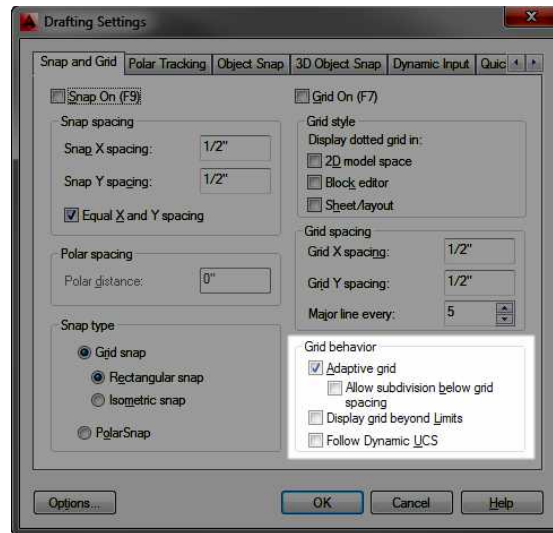

FIGURE 3.6: The Snap And Grid tab of the Drafting Settings dialog box
3. The Snap And Grid tab of the Drafting Settings dialog box should be active (see Figure 3.6). If it's not, click the tab.